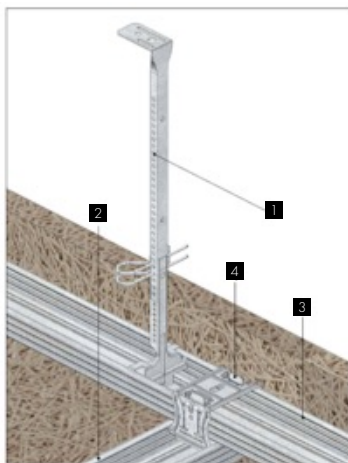

Fig.2
- CD60 verstelbare hangers (Noniushangers onder- en bovendelen). (Fig.2)